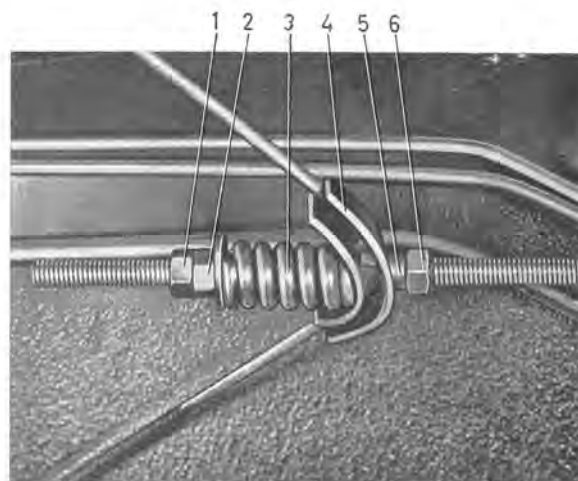

Fig. 5-80. Brake components, right-hand drive
3. Remove the pulley (7, Fig. 5-79) or the clevis (4, Fig. 5-80). Remove the wheel (9) to get at the cable.
1. If new linings or drums are to be fitted, slacken the pulley (7, Fig. 5-79) or the clevis (4, Fig. 5-80) to remove tension in the cable.